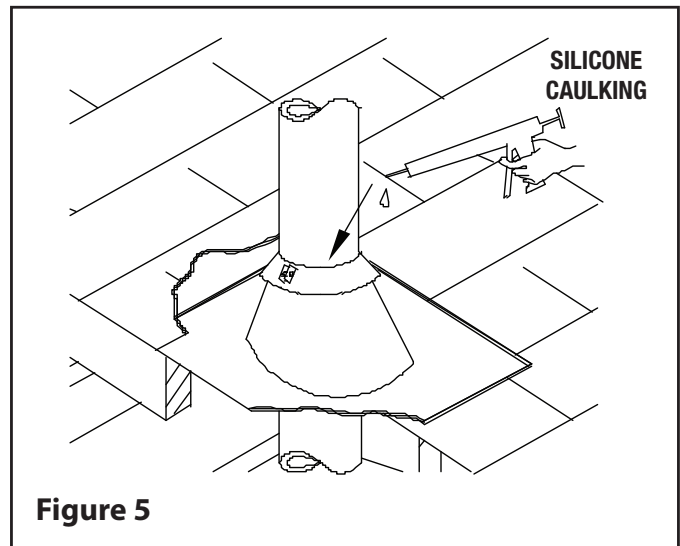

Figure 5
Step 9: Tighten the collar using the supplied bolt. Make sure the joint is properly caulked (see Figure 5).